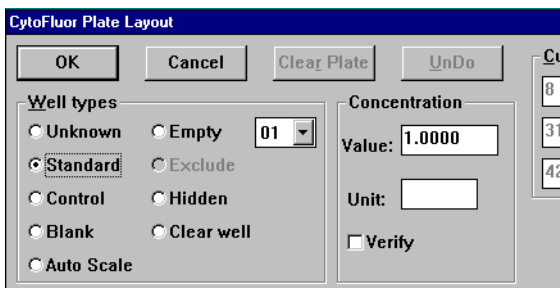

Figure 5-6 Concentration Parameters
2. For standards and controls, enter the concentration value in the Value text box and the units in the Unit text box (Figure 5-6).